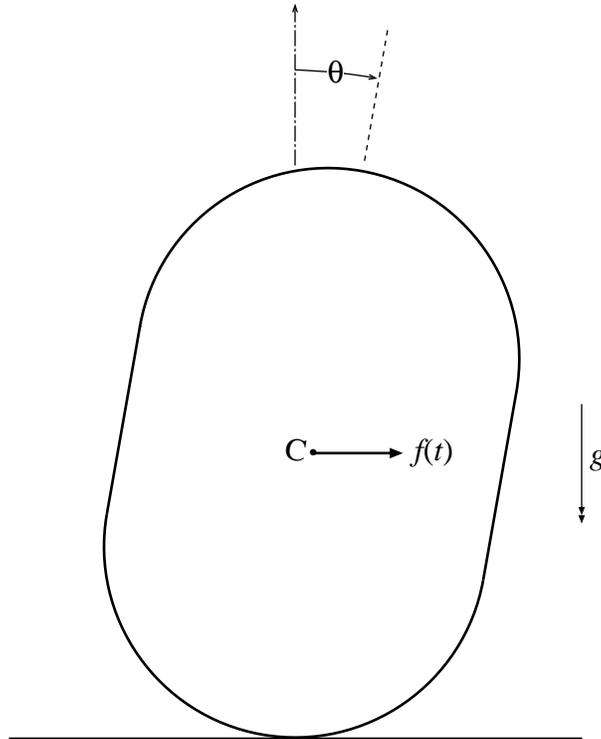

Figure 4: Force  $f(t)$  is applied to rocker.
- (c) To stabilize the rocker, it is proposed to apply a horizontal force  $f(t)$  to the centroid of the rocker, as shown in Fig.4. Derive a differential equation which describes how the rocking angle  $\theta$  responds to the excitation  $f(t)$ .